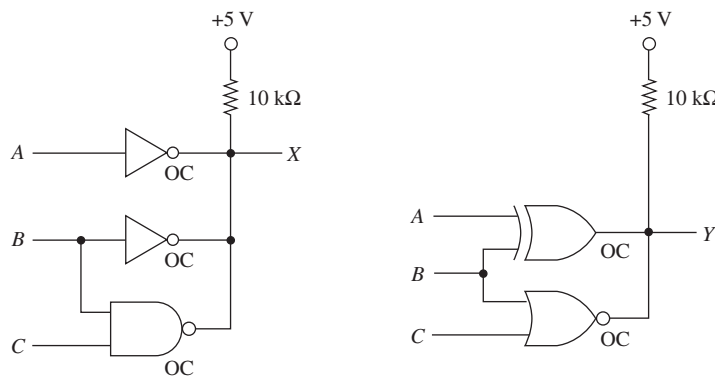

Figure P16
16. The wired-AND circuits in Figure P16 use all open-collector gates. Write the simplified Boolean equations at X and Y.